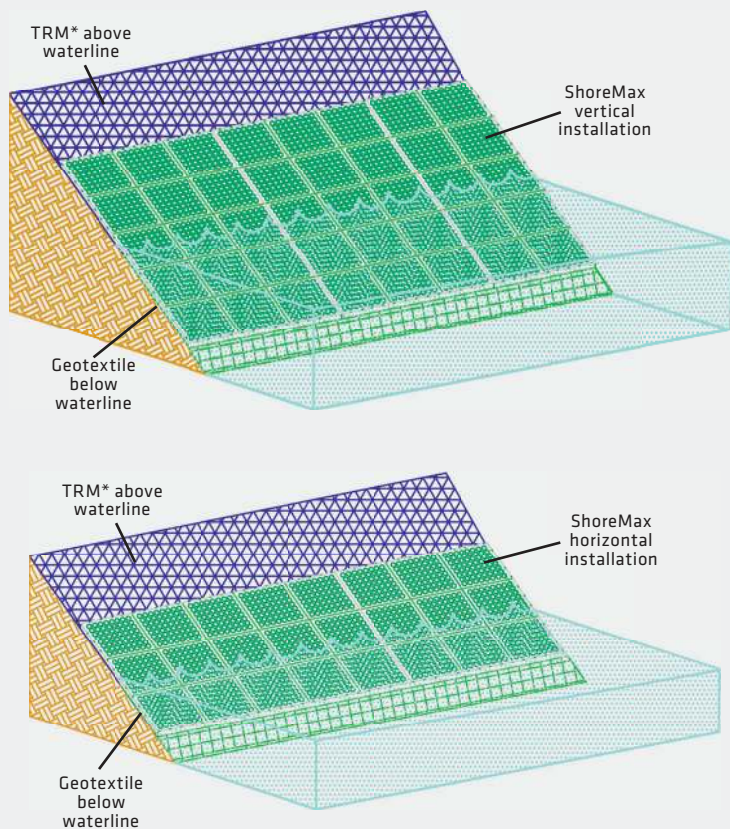

FIGURE 7: Shoreline/streambank plan view
4. Place the ShoreMax Mat over the installed TRM or geotextile (Figure 7). The ShoreMax Mat can be laid in either direction (Figures 7 and 8).